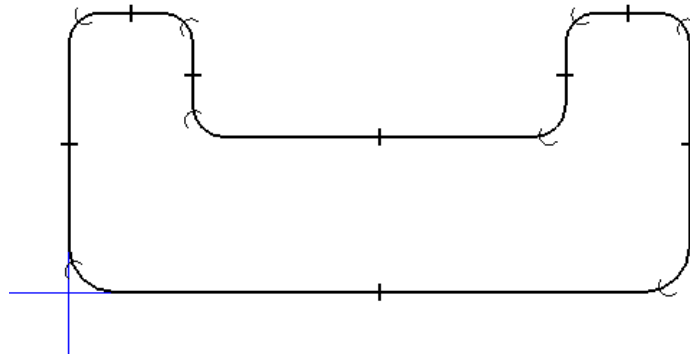

Figure 2-27 Sketch after creating fillets
6. Select the remaining corners of the sketch one by one and fillet them with a radius of 10. The sketch after creating the fillets is shown in Figure 2-27.